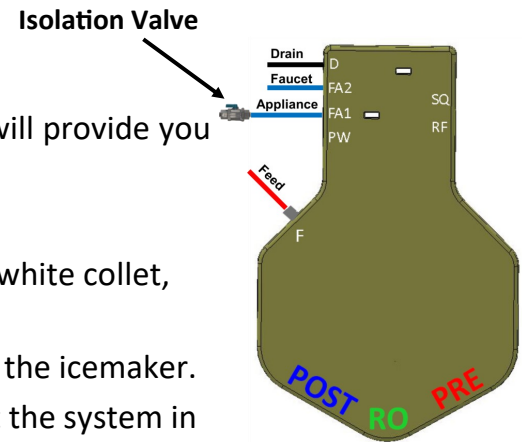

Figure 6
- Make sure that a 3/8" Isolation/Shut-off Valve is installed at the system in the refrigerator/icemaker line and easily accessible under the sink cabinet (Figure 6).
- Make sure that a 3/8" isolation/shut-off valve is installed at the system in the refrigerator/icemaker line and easily accessible under the sink cabinet (Figure 6).